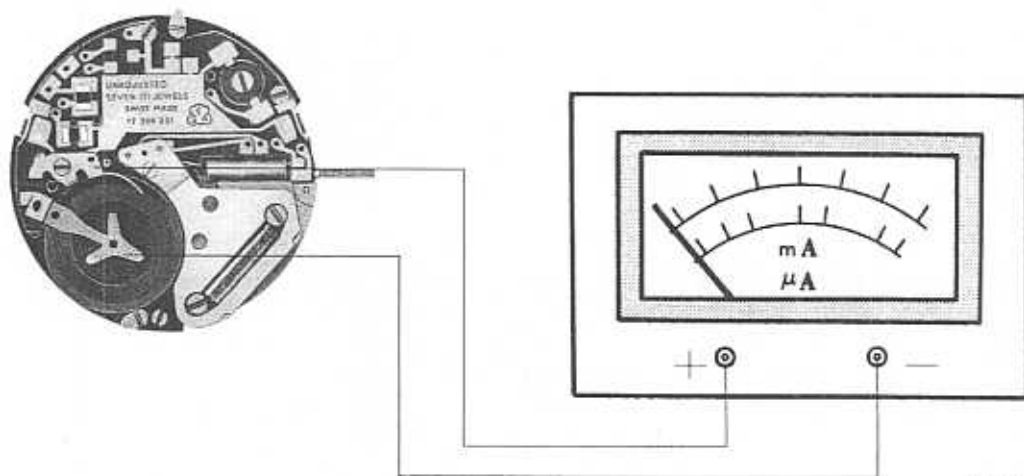

Fig. 1
4. Measurement of power consumption Fig. 1